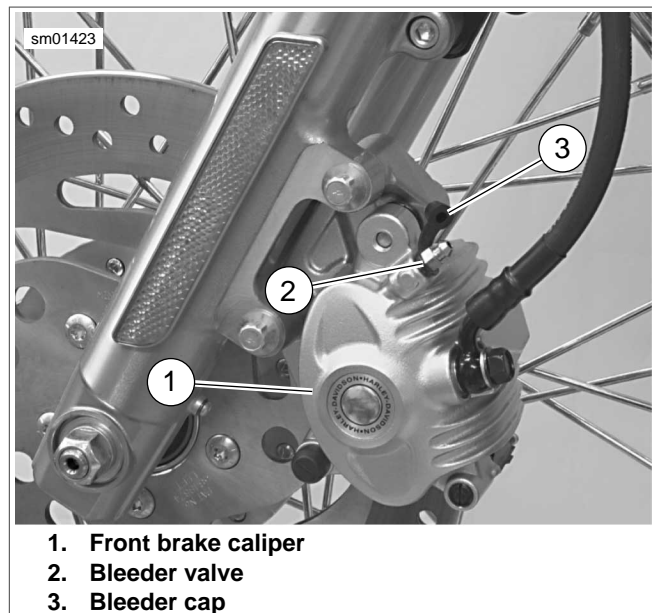

Figure 1-12. Front Brake Caliper
4. See Figure 1-12. Remove bleeder cap (3) from bleeder valve (2) on front caliper (1).
6. Squeeze and hold brake lever to build up hydraulic pressure. See Figure 1-12. Open bleeder valve (2) about 1/2-turn. Brake fluid will flow from bleeder valve through tubing. Observe fluid flowing through tubing. Check for air bubbles.
9. Final tighten bleeder valve to 35-61 **in-lbs** (4.0-6.9 Nm). Remove plastic tubing and install bleeder cap (3).